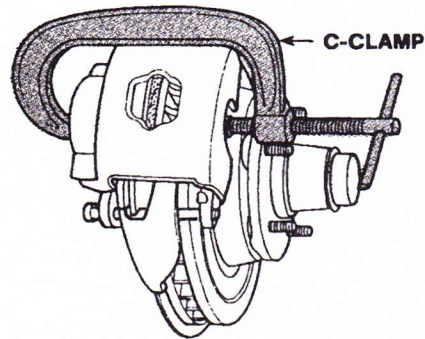

FIGURE 40-17 Bottoming piston in the bore.
4. On a sliding or floating caliper, install a C-clamp on the caliper with the solid end of the clamp on the caliper housing and the screw end on the metal portion of the outboard brake pad. Tighten the clamp until the piston bottoms in the caliper bore (Figure 40-17), then remove the clamp. Bottoming the piston allows room for the brake pad to slide over the ridge of rust that accumulates on the edge of the rotor.